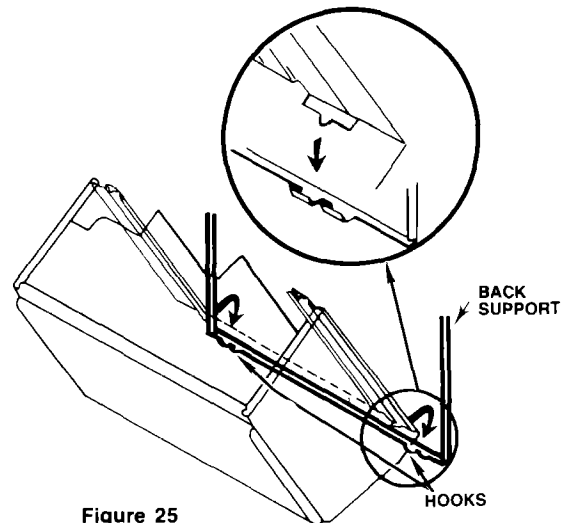
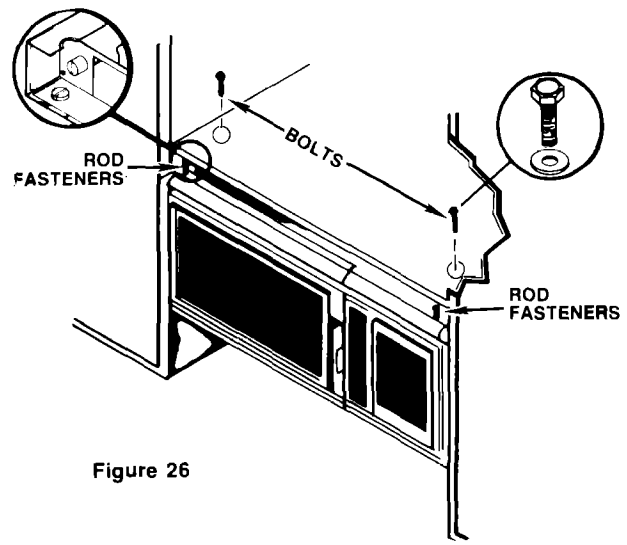

Figure 25
Figure 26
5. Hang the unit on the hooks at the bottom of the back support. (See figure 25.) Lift unit upward and secure by turning two (2) rod fasteners clockwise with a flat blade screwdriver a quarter turn until slot is horizontal and comes to a complete stop. Oven is now temporarily secure. (See figure 26.)
6. Place 5/16" diameter flat washers onto two (2) 1/4" x 1-1/2" long bolts. Screw bolts through top cabinet into cage nuts in top front corners of oven and tighten until side panels are snug to bottom of cabinet. (See figure 26.)